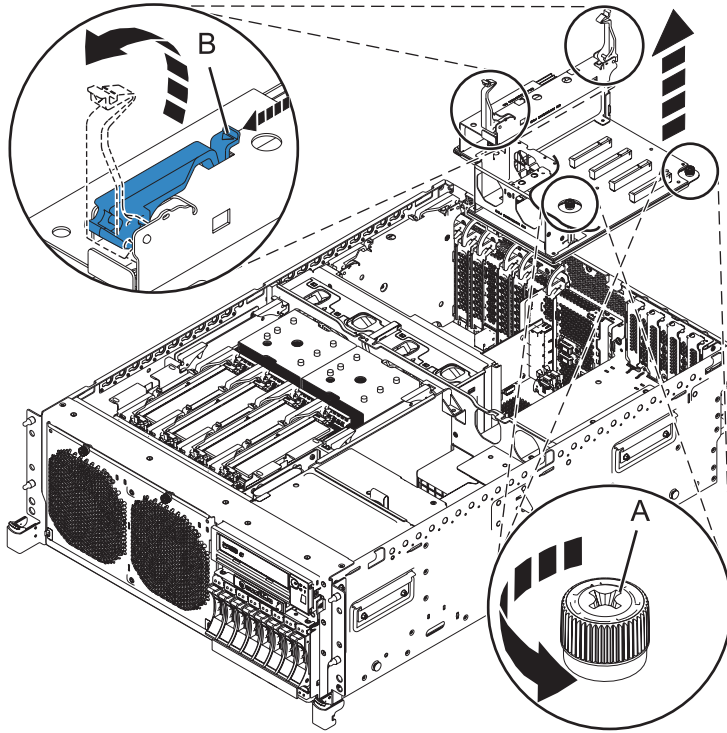

Figure 33. Removing the PCI riser
- a. Loosen the two thumbscrews (A) by turning them counterclockwise. See Figure 33 on page 59.
- b. Unlock the PCI riser latches (B) by pressing the end of the latches and lifting them upward.